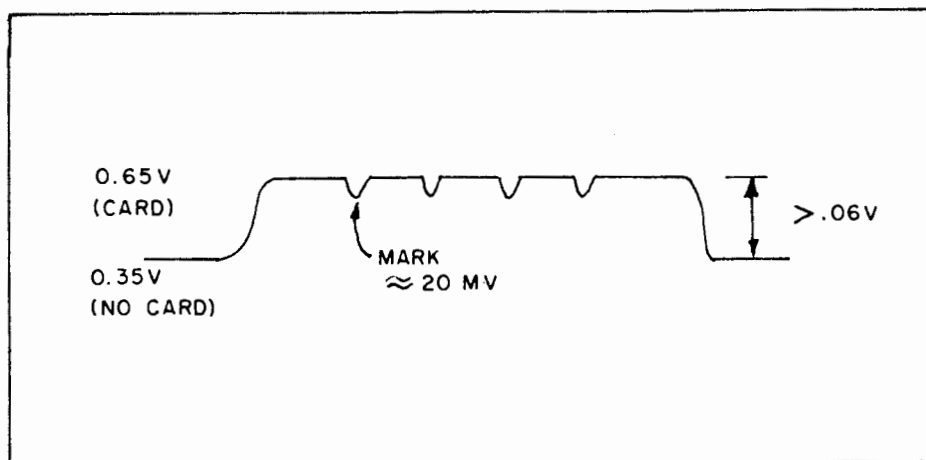

Figure 4-6. Mark Waveform
b. Check the voltage waveform at the base of transistor Q101 through Q1301 on assembly A1 while reading a card (see D02760-6032-S); it should appear as shown in Figure 4-6. If it does not appear as shown, check diodes CR101 through CR1301 of assembly A1. If these diodes are not found defective, replace the photo diode corresponding to the malfunctioning channel. Remove the read head from the Reader, and disassemble the read head by removing the four screws on top of the printed circuit board. See exploded view, Figure 5-1.